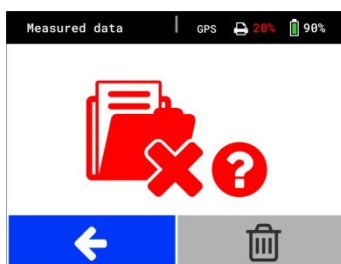

Figure 29
- ⇒ The menu on the left is displayed on the screen (Figure 29).